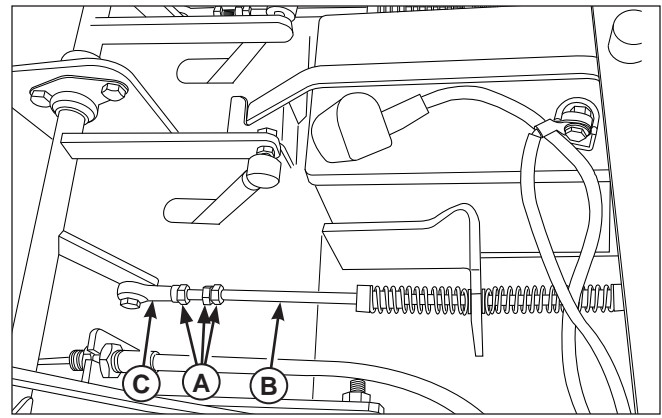

Figure 35. Neutral Adjustment
2. The locking nuts (**A**, **Figure 35**) are to be used together to turn the rod. Loosen the jam nut that locks against the ball joint (**B**) and turn the linkage rod (**C**) to adjust: